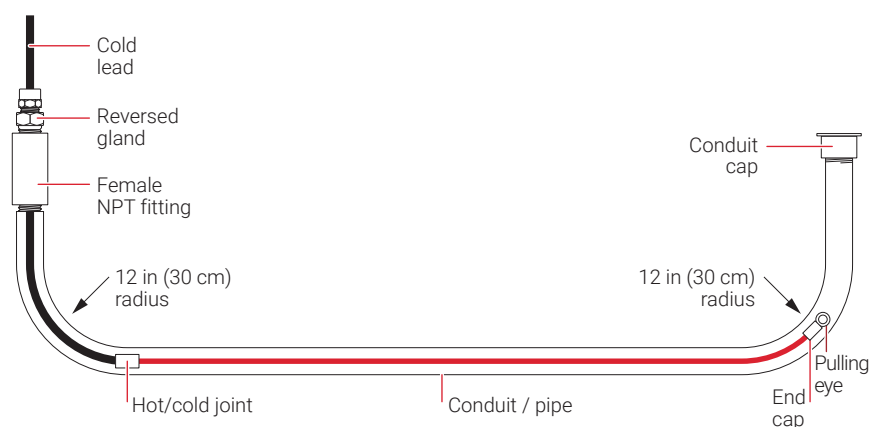

Fig. 13 Installation where conduit ends stub-up
- If it is necessary to stub-up the ends of the conduit, use a minimum 12 in (30 cm) radius as shown in Fig. 13.